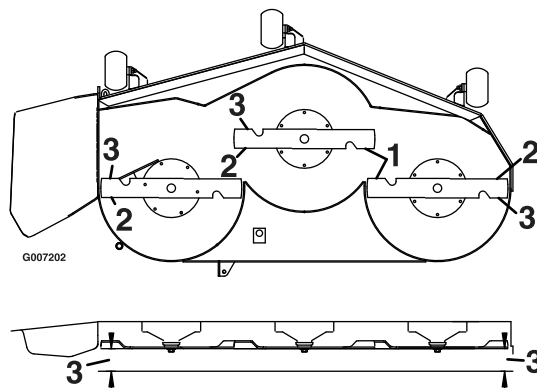

Figure 62
4. Measure between the outside cutting edges and the flat surface (Figure 62). If both measurements